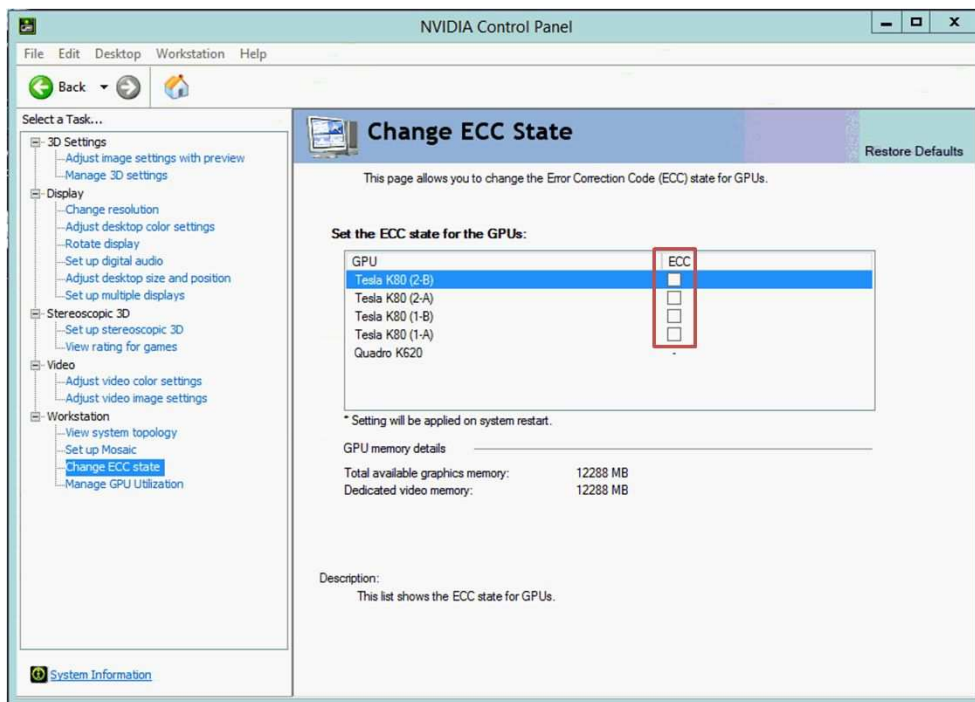

Figure 3: Switch off the ECC feature for all Tesla cards.
4. Disable or enable the ECC feature for all Tesla devices (see fig. 3).